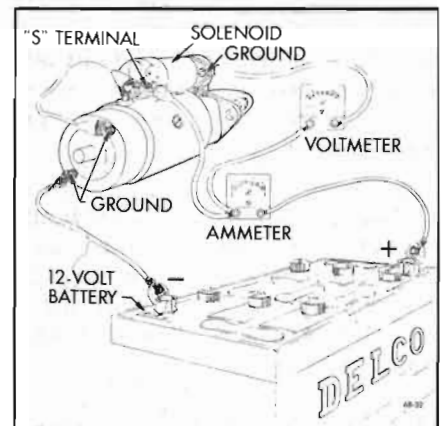

Figure 68-32—Amperage Test of Solenoid
1. Remove screw from solenoid motor terminal and bend field leads slightly until clear of terminal. Then ground solenoid motor terminal with a heavy jumper wire. See Figure 68-32.